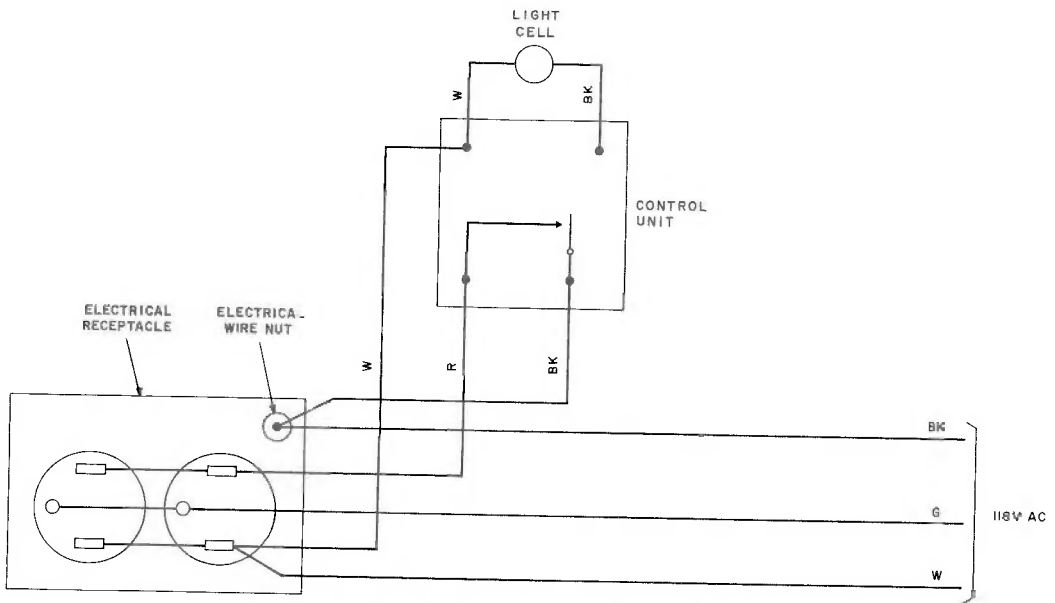

Fig. 16—Wiring Diagram of KS-19261, List 3 Light Control Unit
- (e) Connect control unit wires to electrical receptacle as shown in Fig. 16.
4.17 Connect wires of control unit to electrical receptacle of prime mounting as shown in Fig. 16.
- (a) Remove electric wire nut (Fig. 16) from black wires. Connect black wire from ac power source to electrical receptacle on terminal opposite white wire.